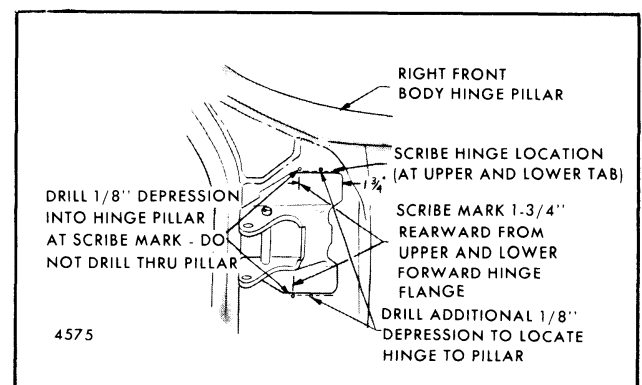

Fig. 5-63-Locating Hinge Position on Body Hinge Pillar - "X" Styles
2. Locate hinge position on body hinge pillar (refer to Fig. 5-63).